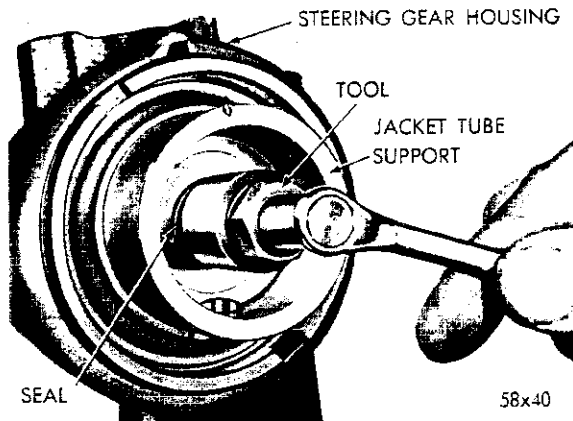

Fig. 35—Removing the Worm Shaft Upper Seal
(1) Remove the worm shaft upper seal with puller Tool C-3638 (Fig. 35).